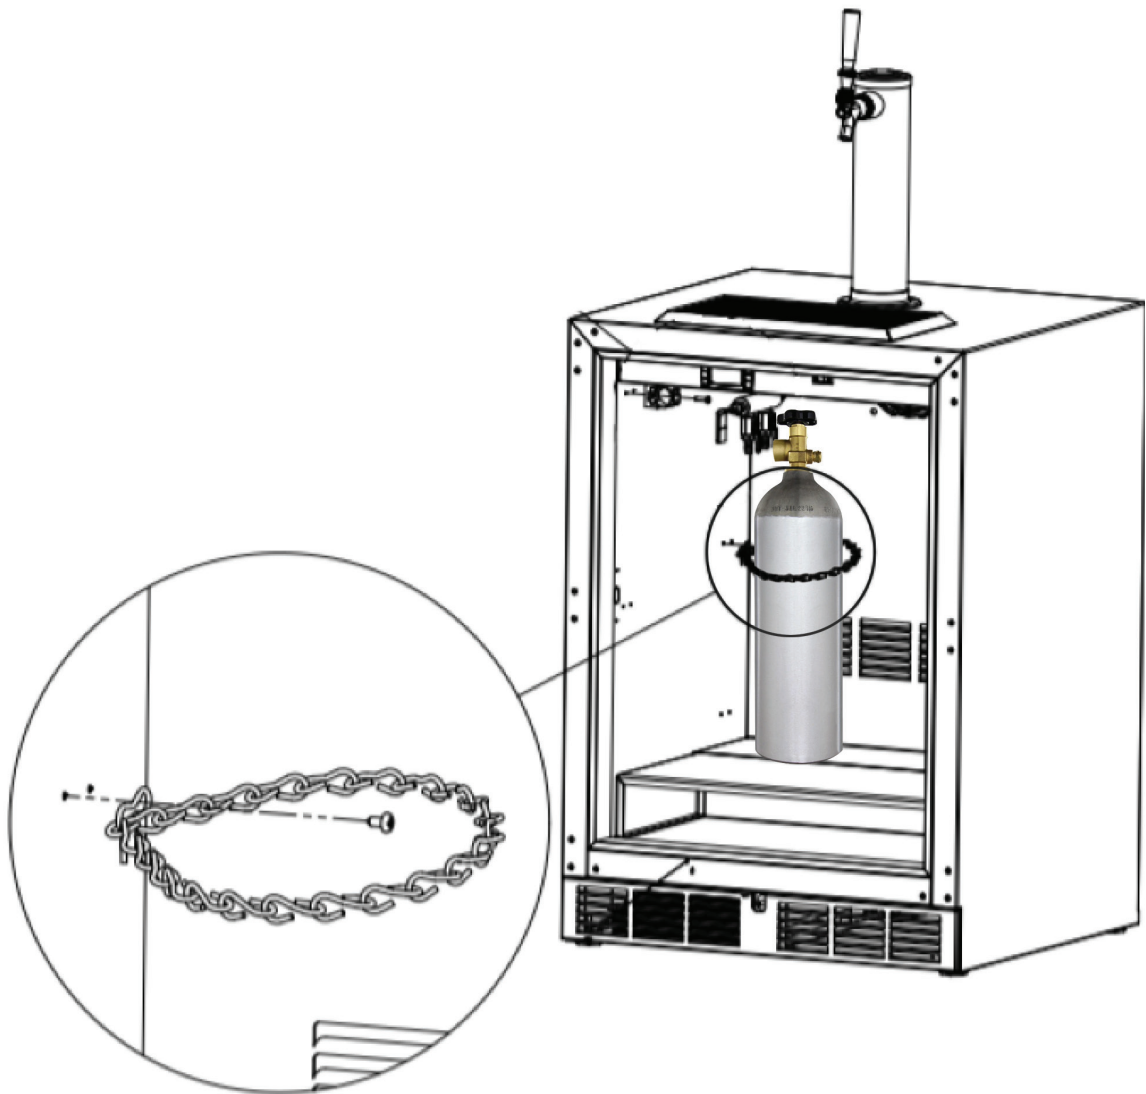

Fig. 17
- 2. Connect both ends of the safety chain together and with pliers, close the open loop (*Fig. 17*).
- 3. Drive a self-tapping screw from the parts bag through the S-hook (*Fig. 17*).